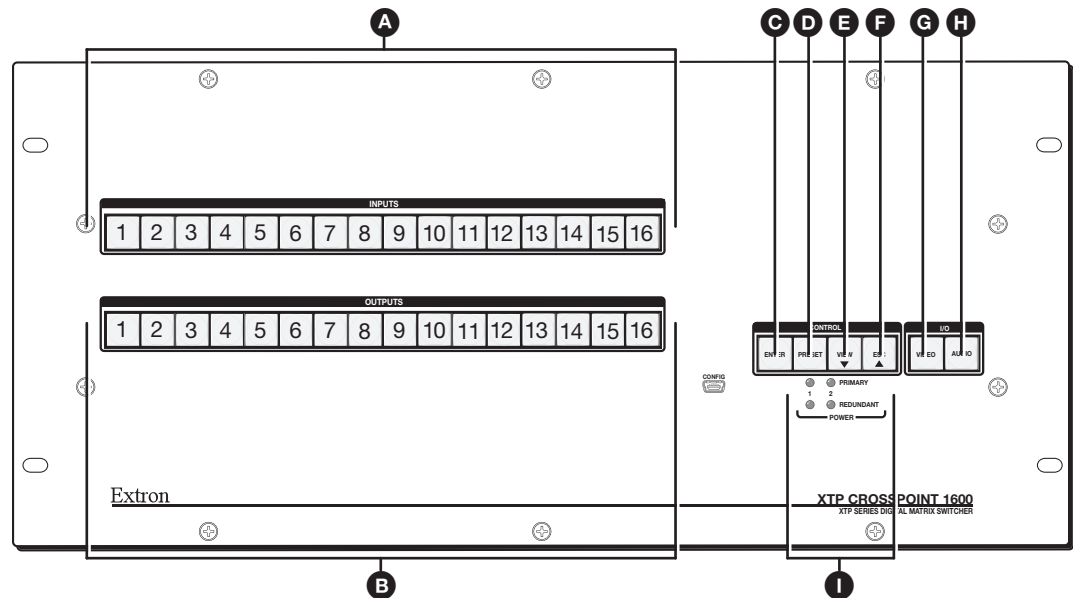
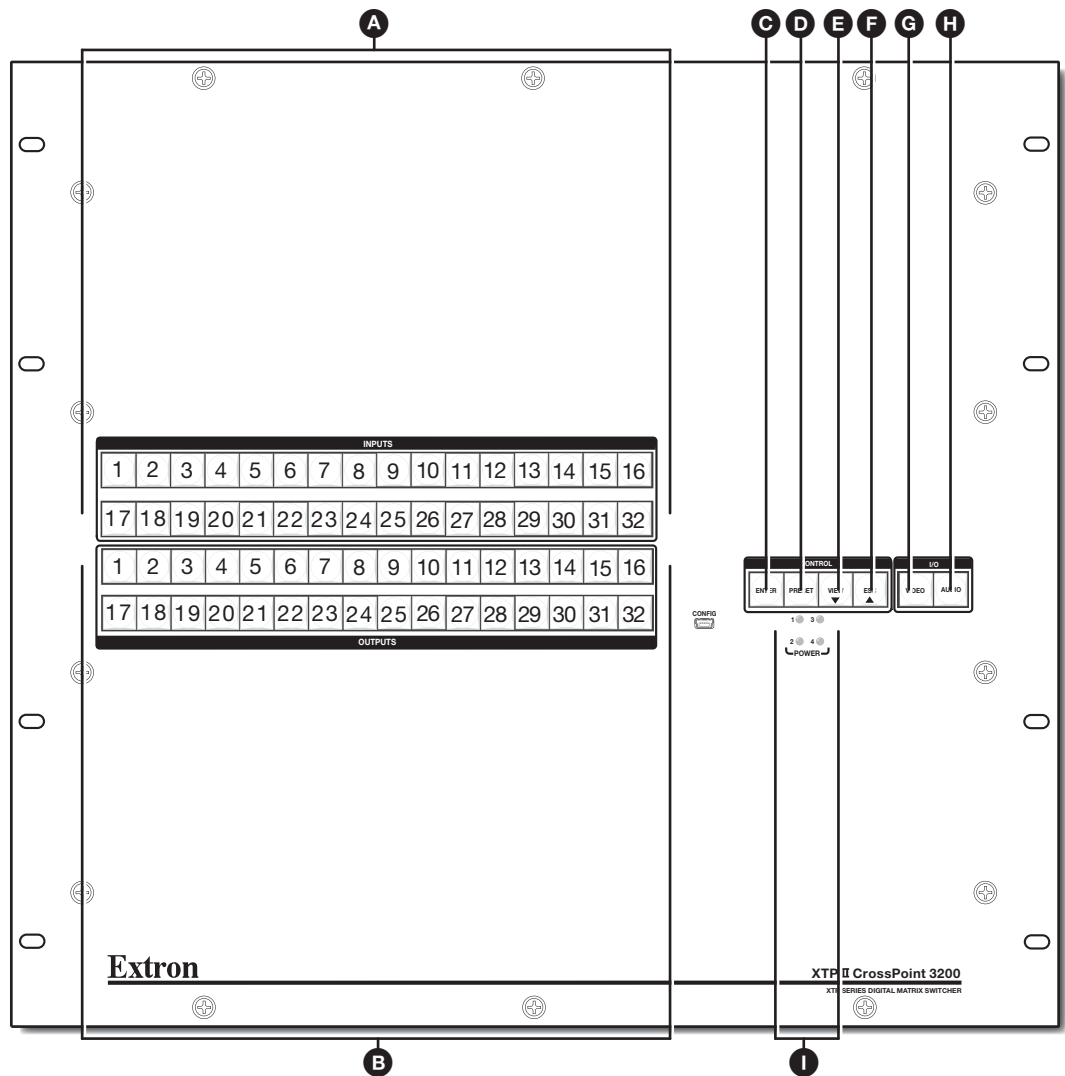

Figure 28. Front Panel, XTP CrossPoint 1600 Matrix Switcher
Figure 29. Front Panel, XTP CrossPoint 3200
The front panel controls (see figure 28 and figure 29 on the next page) are grouped into two sets. The input and output buttons, **A** and **B**, are grouped on the left side of the control panel. The control buttons and video/audio (I/O) selection buttons, **C** through **H**, are grouped on the right side of the panel.
- A Input buttons** (see **figure 28** on page 29 or **figure 29** on page 30) — The input buttons have one primary (□) and three secondary functions (●):
- B Output buttons** (see **figure 28** or **figure 29**) — The output buttons have one primary (□) and three secondary functions (●):
C Enter button (see **figure 28** on page 29 or **figure 29** on page 30) — **Enter** has two primary (□) and two secondary functions (●):
D Preset button (see **figure 28** or **figure 29**) — Preset has two primary (□) and three secondary functions (●):
- E View (▼) button** (see figure 28 on page 29 or figure 29 on page 30) — The **View** (▼) button has one primary function (□) and six secondary functions (●):
- F Esc (▲) button** (see figure 28 or figure 29) — The **Esc** (▲) button has two primary functions (□) and six secondary functions (●):
- G Video button** (see **figure 28** on page 29 or **figure 29** on page 30) — Video has one primary (□) and two secondary functions (●):
- H Audio button** (see **figure 28** or **figure 29**) — Audio has one primary (□) and three secondary functions (●):